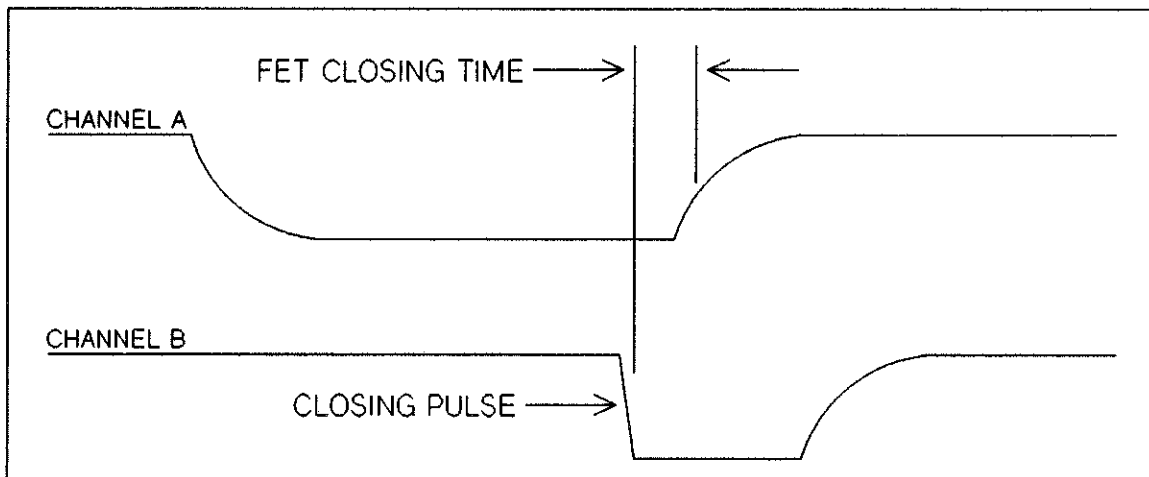

Figure 9-16 HP 44709A/44710A Closing Time
3. Rotate the DELAY SWEEP dial on the oscilloscope to the minimum position. Slowly rotate the dial clockwise until the first closing is displayed. The Channel B trace is the closing pulse output from the multiplexer. The Channel A waveform is the +5V supply, as switched by the FET channel switches. As the DELAY SWEEP dial is rotated, each channel switch and the associated CLOSING pulse will come into view. The FET closing time is the time from the falling edge of the CLOSING pulse to the rising edge of the Channel A waveform. This time must be less than 2.25  $\mu$ seconds. The closing time is illustrated in Figure 9-16.